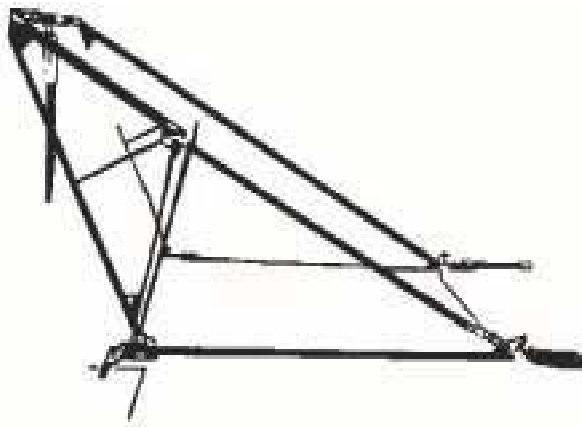

Figure 2-12. Schlomer Frame
a. SCHLOMER FRAME (Figure 2-12).
(1) Characteristics: A welded tubular steel frame. Anchor points incorporate three quick release pins capable of collapsing the frame and storing it out of the way when not in use.
(2) Uses: For attaching 1 or 2 fast ropes at the ramp rope station of the CH-46E.
(3) Manufacturer: Intermediate Maintenance Activity (IMA) of the Aviation Group
(4) Installation: The Schlomer frame is installed by the aircrew.
(5) Maintenance cycle/ Non Destructive Inspection (NDI) of the Schlomer frame by IMA is required every 365 days.